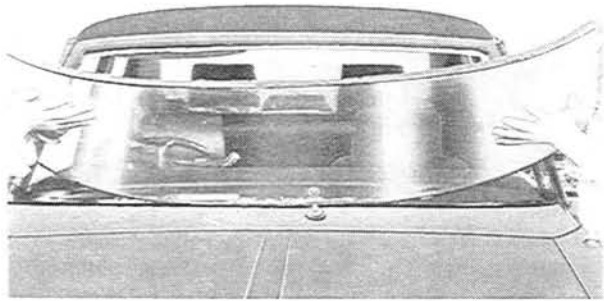

Fig. 14-6 Removing of windshield glass
7. Remove the window glass from the body. The removal of the window glass shown in Fig. 14-6 should be performed by two persons.